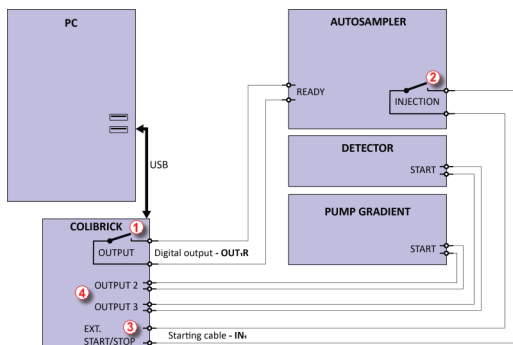
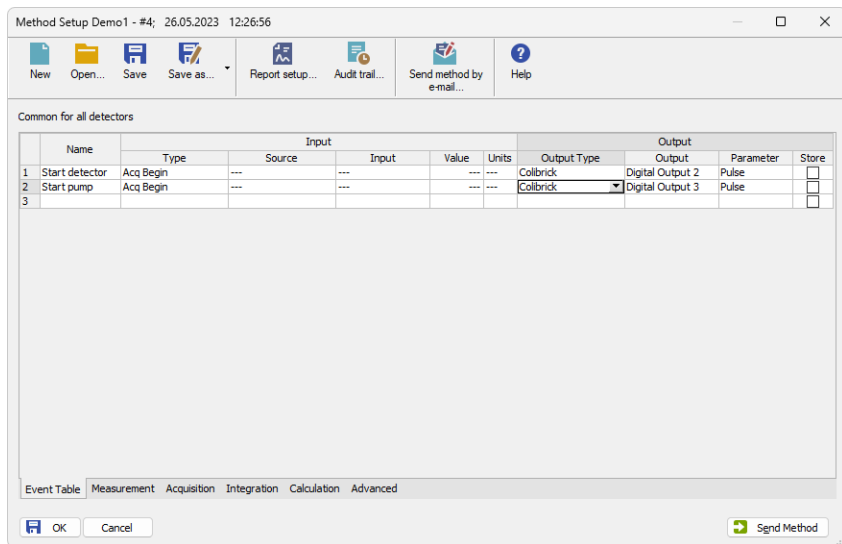

Fig. 25: Wiring of the autosampler in an LC set without the AS Control module
Fig. 27: Event Table for starting detector and pump from Clarity
The autosampler will initiate the injection after its input contact has been closed ①. After the injection, the autosampler will close the INJECTION contact ②, and the command to start acquisition will be given directly back ③. When using additional devices (Detectors, LC Pumps, etc.) it is recommended to connect these devices independently to other digital outputs of the A/D converter ④. Each device will then need a dedicated row in the **Event Table** (Fig. 27 on pg. 40.) to be started or stopped by **Clarity**.
Events to start additional detectors and pumps from **Clarity** must be set in the *Event Table* accessible from the *Method Setup* dialog. In the most typical setup (shown in **Fig. 25** on pg. **39**.) use the setting as displayed in **Fig. 27** on pg. **40**.